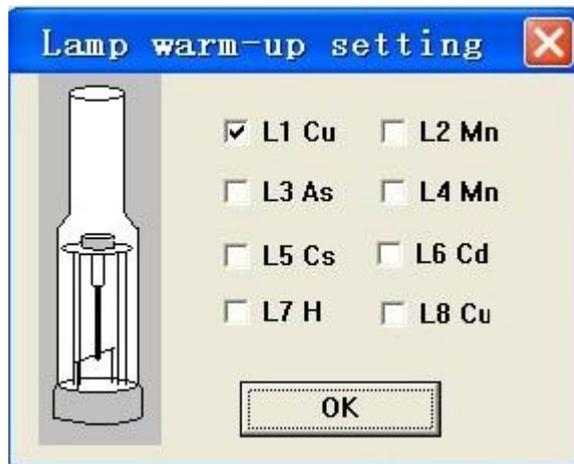

Figure 4-30
17. Press "Lamp warm-up", and the screen is as shown in Figure 4-30. Select one or multiple lamps for warming up.